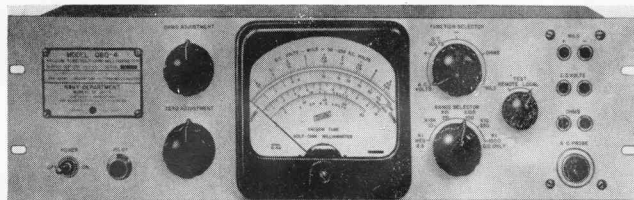

Figure 1-22. Volt-Ohm-Milliammeter Navy Model OBQ-4
(16) VOLT - OHM - MILLIAMMETER NAVY MODEL OBQ-4 (Figure 1-22).—Vacuum-Tube Volt-Ohm-Milliammeter Navy Model OBQ-4 is a combination electronic A-C and D-C volt meter, ohmmeter, and milliammeter which can be used wherever it is necessary to make voltage, resistance, and current measurement. For more complete information refer to NavShips 900,988. This component is Government furnished, and is not included in the contractor's shipment of equipment.